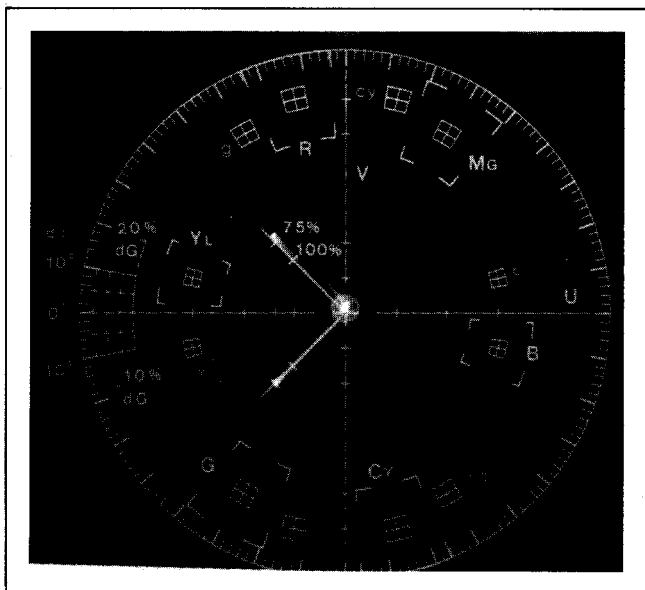

Fig. C22
4. \* Push [INC] or [DEC] keys until phase of red and yellow vectors are as close as possible to Spec. See Fig.C22.